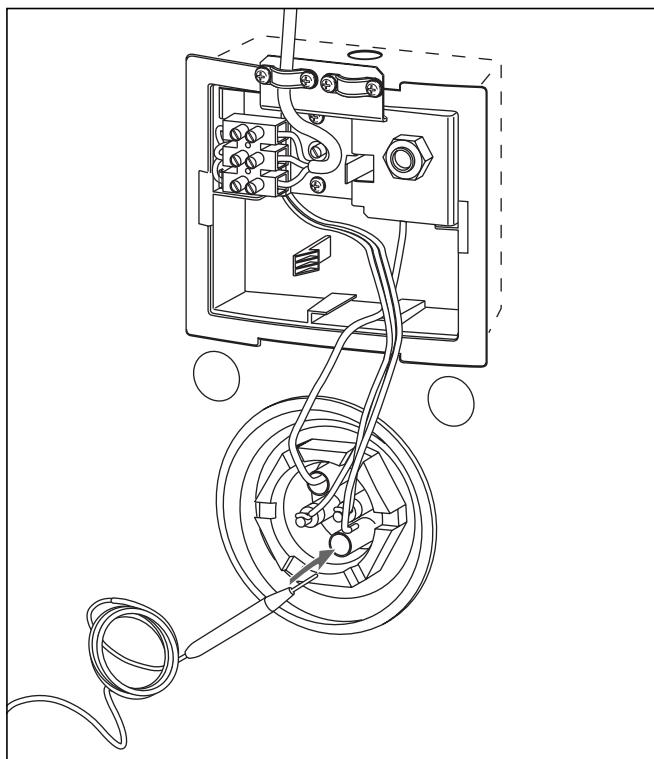

Fig. 5.6 Installing the NTC
- Now the NTC can be pushed into the free dry pocket of the cylinder as shown in fig. 5.6.